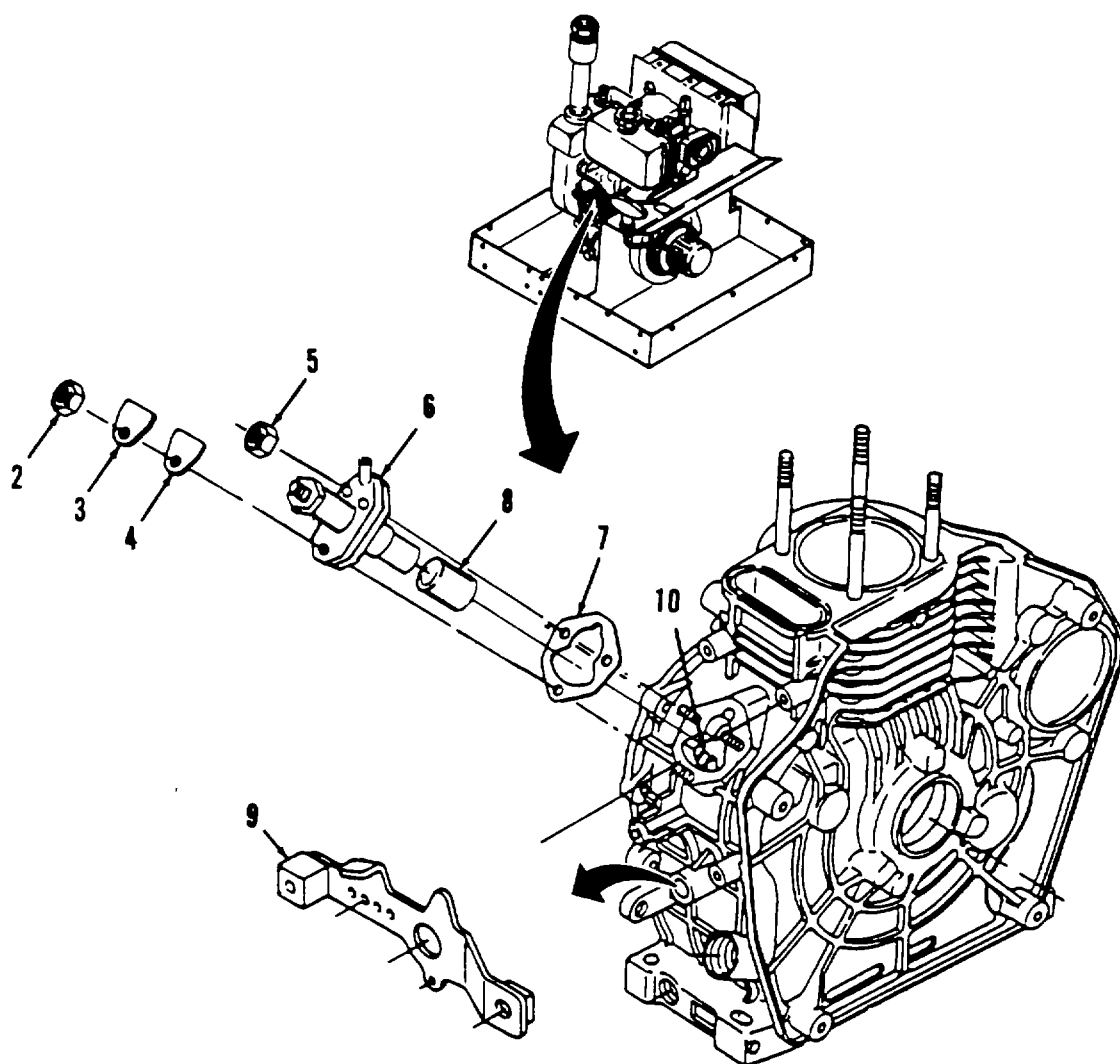

Figure 4-26. Fuel Injector Pump Replacement.
a. Removal. (Refer to Figure 4-26).
- (1) Loosen hex nut (2) securing pump viewing access plate (3) and gasket (4). Discard gasket.
- (2) Loosen two hex nuts (5) securing fuel injection pump (6), and remove pump together with base mounting plate.
- (3) Remove metal shim (7).
- (4) If flat tappet (8) is not removed with fuel injection pump, then remove flat tappet with fingers.
- (4) Refer to Figure 4-26. Position metal shim (7) and carefully insert fuel injection pump (6) onto the studs, making sure the speed control lever engages into governor yoke (9).
- (5) Secure fuel injection pump onto studs using two nuts (5).
- (6) Attach pump viewing access plate (3) and new gasket (4) with one hex nut (2).